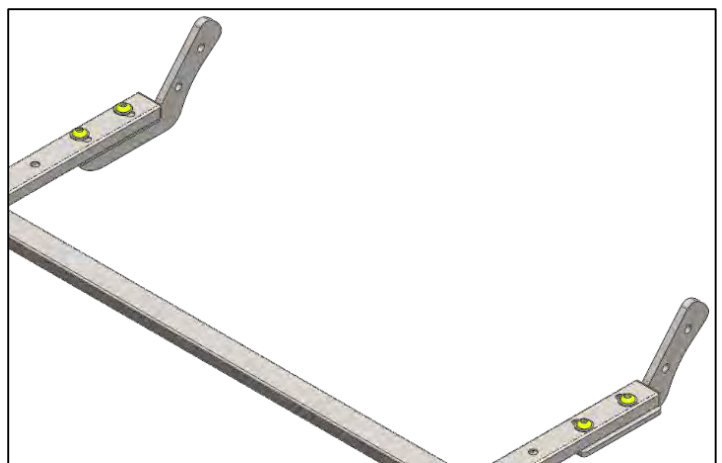

Fig. 1
- Loosen the 4 bolts (highlighted in Fig.1) at the back of the drip tray frame.
- Tighten the bolts that were loosened on the frame earlier (shown in Fig.1).